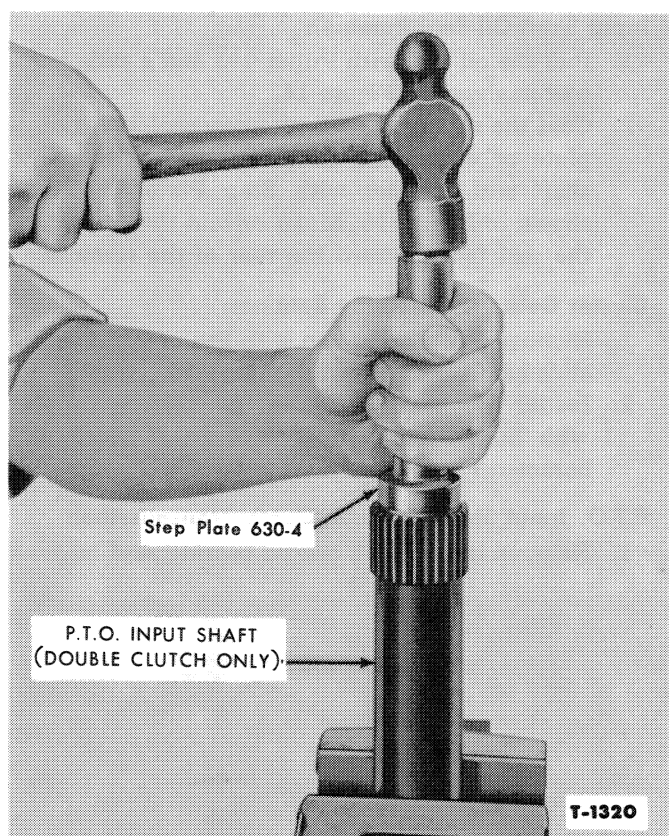

Figure 19—Installing Seal in P.T.O. Input Shaft
3. Coat the wiping surface of a new oil seal with Lubriplate or equivalent and press it in the shaft, using Step Plate 630-4. See Figure 19.